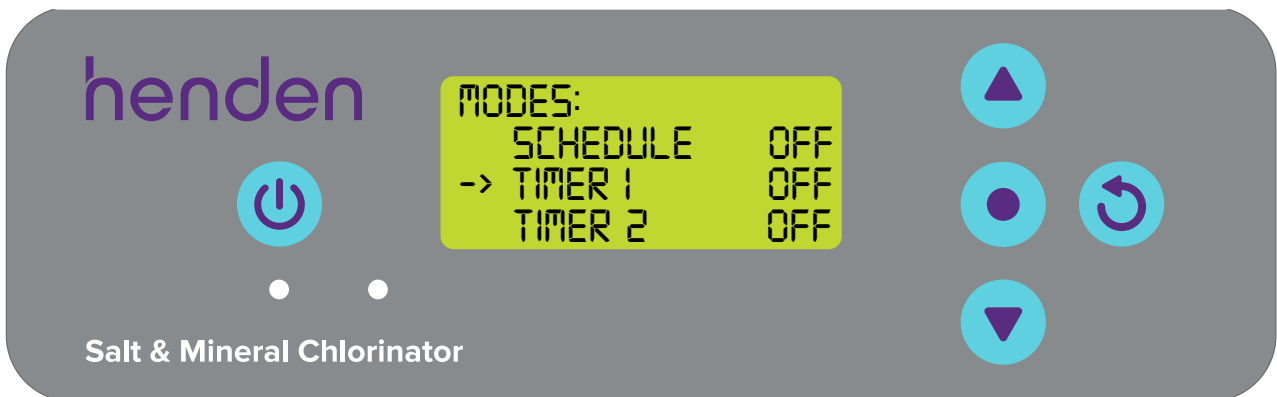

Figure 9.20
- Once time settings have been made to TIMER 1, press the  **menu/setting select** button to re-enter the TIMER 1 menu (refer Figure 9.20).